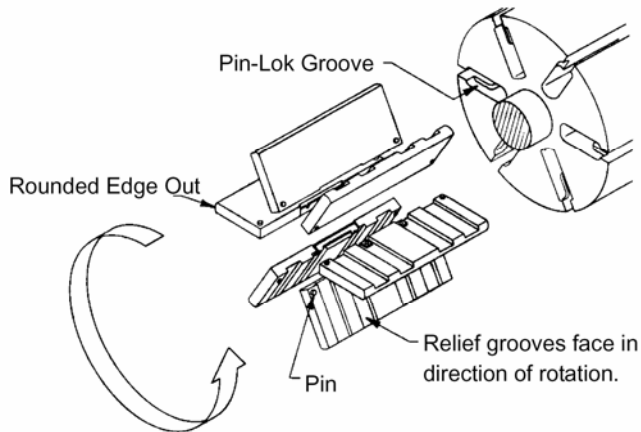

Figure 5 – Vane Installation
5. Install a new vane, ensuring that the rounded edge is UP, and the relief grooves are facing towards the direction of rotation. See Figure 5.
5. Remove the vanes (14) and push rods (77) from the rotor and shaft assembly. Inspect for wear and damage, and replace as follows:
- a. Insert the three push rods (77) into the rotor.
6. Insert the vanes into the rotor slots with the relief grooves facing in the direction of pump rotation, and with the rounded edges outward. See Figure 5. Using a hoist, install the disc in the casing with the smooth side of the disc towards the casing (seal cavity outward) and the pressure relief hole towards the bottom of the casing (6 o'clock position).
7. Install a new head O-ring (72).
- f. Hand pack the ball bearing (24) with grease. Refer to the "Lubrication" section for the recommended grease. Install the bearing into the recess of the head.
- g. Inspect the grease seal (104) for wear or damage and replace as required. Grease the outside diameter of the grease seal and push it into the inboard bearing cover (27A) with the lip of the seal outward.
- h. Attach bearing cover (27A) and gasket (26) to head. Make sure the grease fittings (76) on the bearing covers are accessible. Install and torque the bearing cover capscrews (28) as indicated in the "Torque Table".